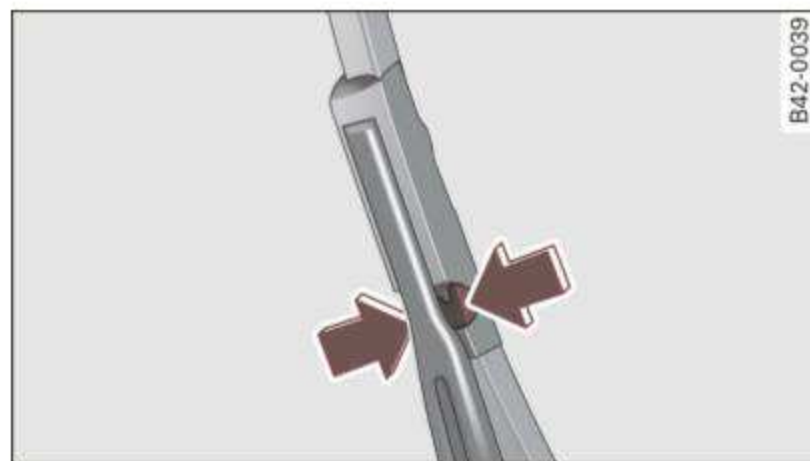

Fig. 52 Unlatching wiper blades
- On the upper end of the wiper arm at the corrugation, squeeze the plastic retainer together on both sides in the direction of the arrow ⇒ fig. 52.